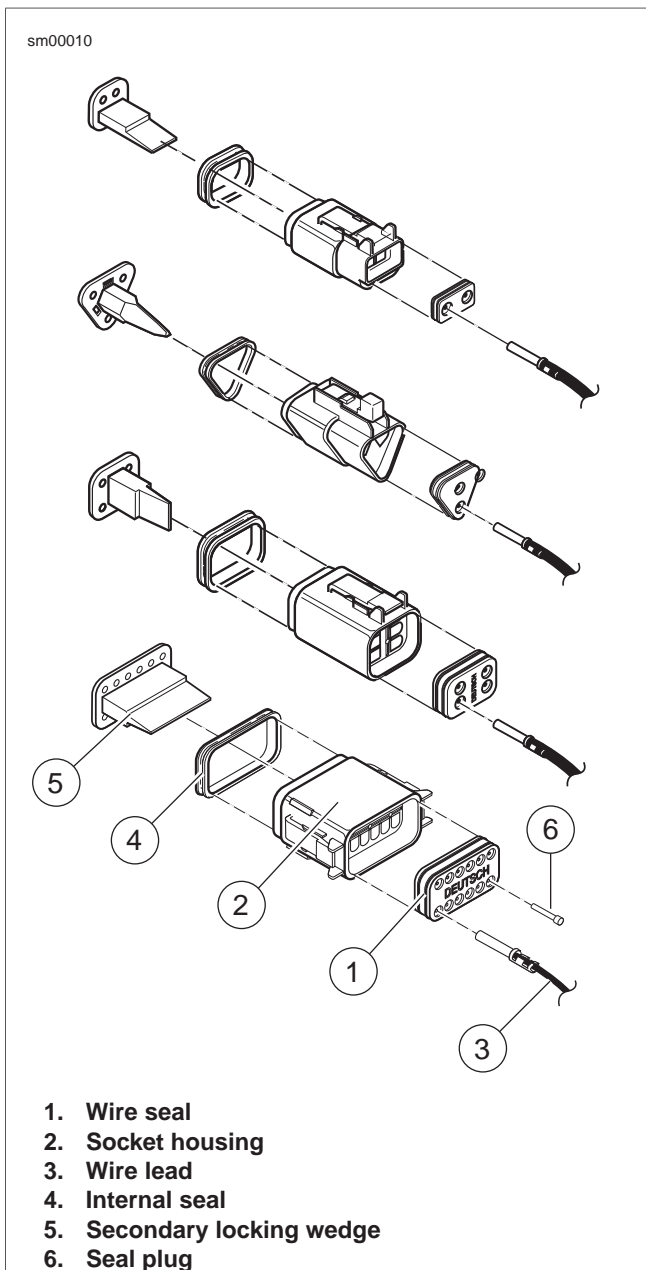

Figure A-14. Deutsch Connector: 2, 3, 4 and 12-Place Socket Housings
- See Figure A-14. Fit rear wire seal (1) into back of socket housing (2), if removed.
- Grasp wire lead (3) approximately 1.0 in. (25.4 mm) behind the socket terminal. Gently push socket through hole in wire seal into its chambers until it "clicks" in place.